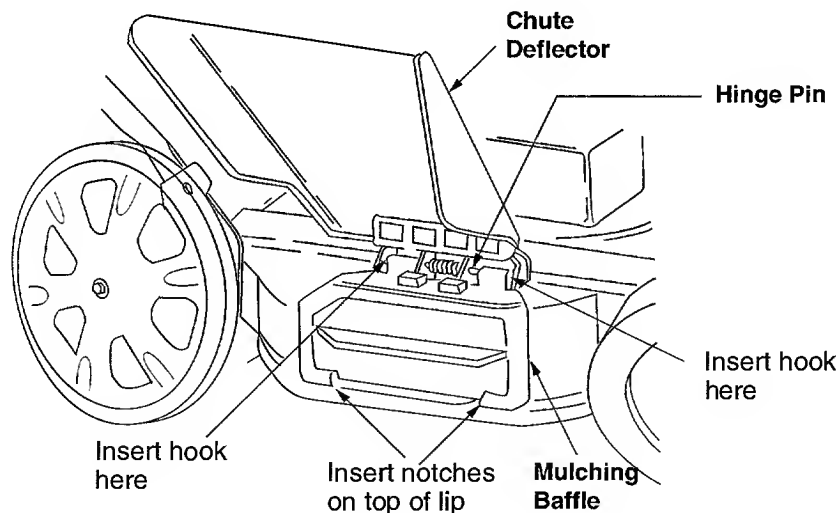

FIGURE 12
- Insert the mulching baffle so that the notches at the bottom of the baffle sit firmly on the lip of the deck opening. See Figure 12.